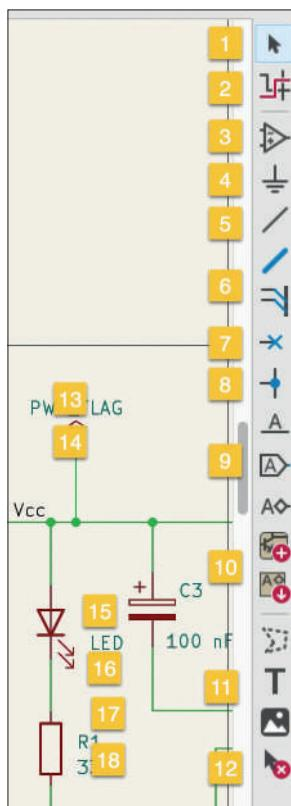

Figure 7.4.1: The buttons in the right toolbar.
This chapter will give you an overview of the buttons that appear in the right toolbar in Eeschema. You can see the right toolbar with its numbered buttons in Figure 7.4.1 below.
When no tool is active (for example, the Wire or label tool), you are using the default pointer. If you have activated a tool, you can revert to the pointer by clicking on the arrow button (“1” in Figure 7.4.1) or hitting the escape key.
You can learn how to use the bus and bus entry feature and its enabling buttons (in group "6" in Figure 7.4.1) in a dedicated chapter in the Recipes part of this book.
1. Net labels (the first button from the top in the buttons marked as “9” in Figure 7.4.1). These labels work within a single schematic sheet.
The two buttons marked as “10” in Figure 7.4.1 allow you to create and work with hierarchical sheets. Hierarchical sheets help break up a busy schematic sheet into two or simpler sheets.
The three buttons in the group marked “11” in Figure 7.4.1 allow you to draw simple line graphics, add text labels, and insert images. You can use these tools to annotate your schematic.
In the example below, I have enabled the interactive delete tool by clicking on its button (“12” in Figure 7.4.1). The cursor becomes a virtual eraser. As I hover the cursor over an element, such as the graphics line, the editor highlights the element by changing its color to purple.